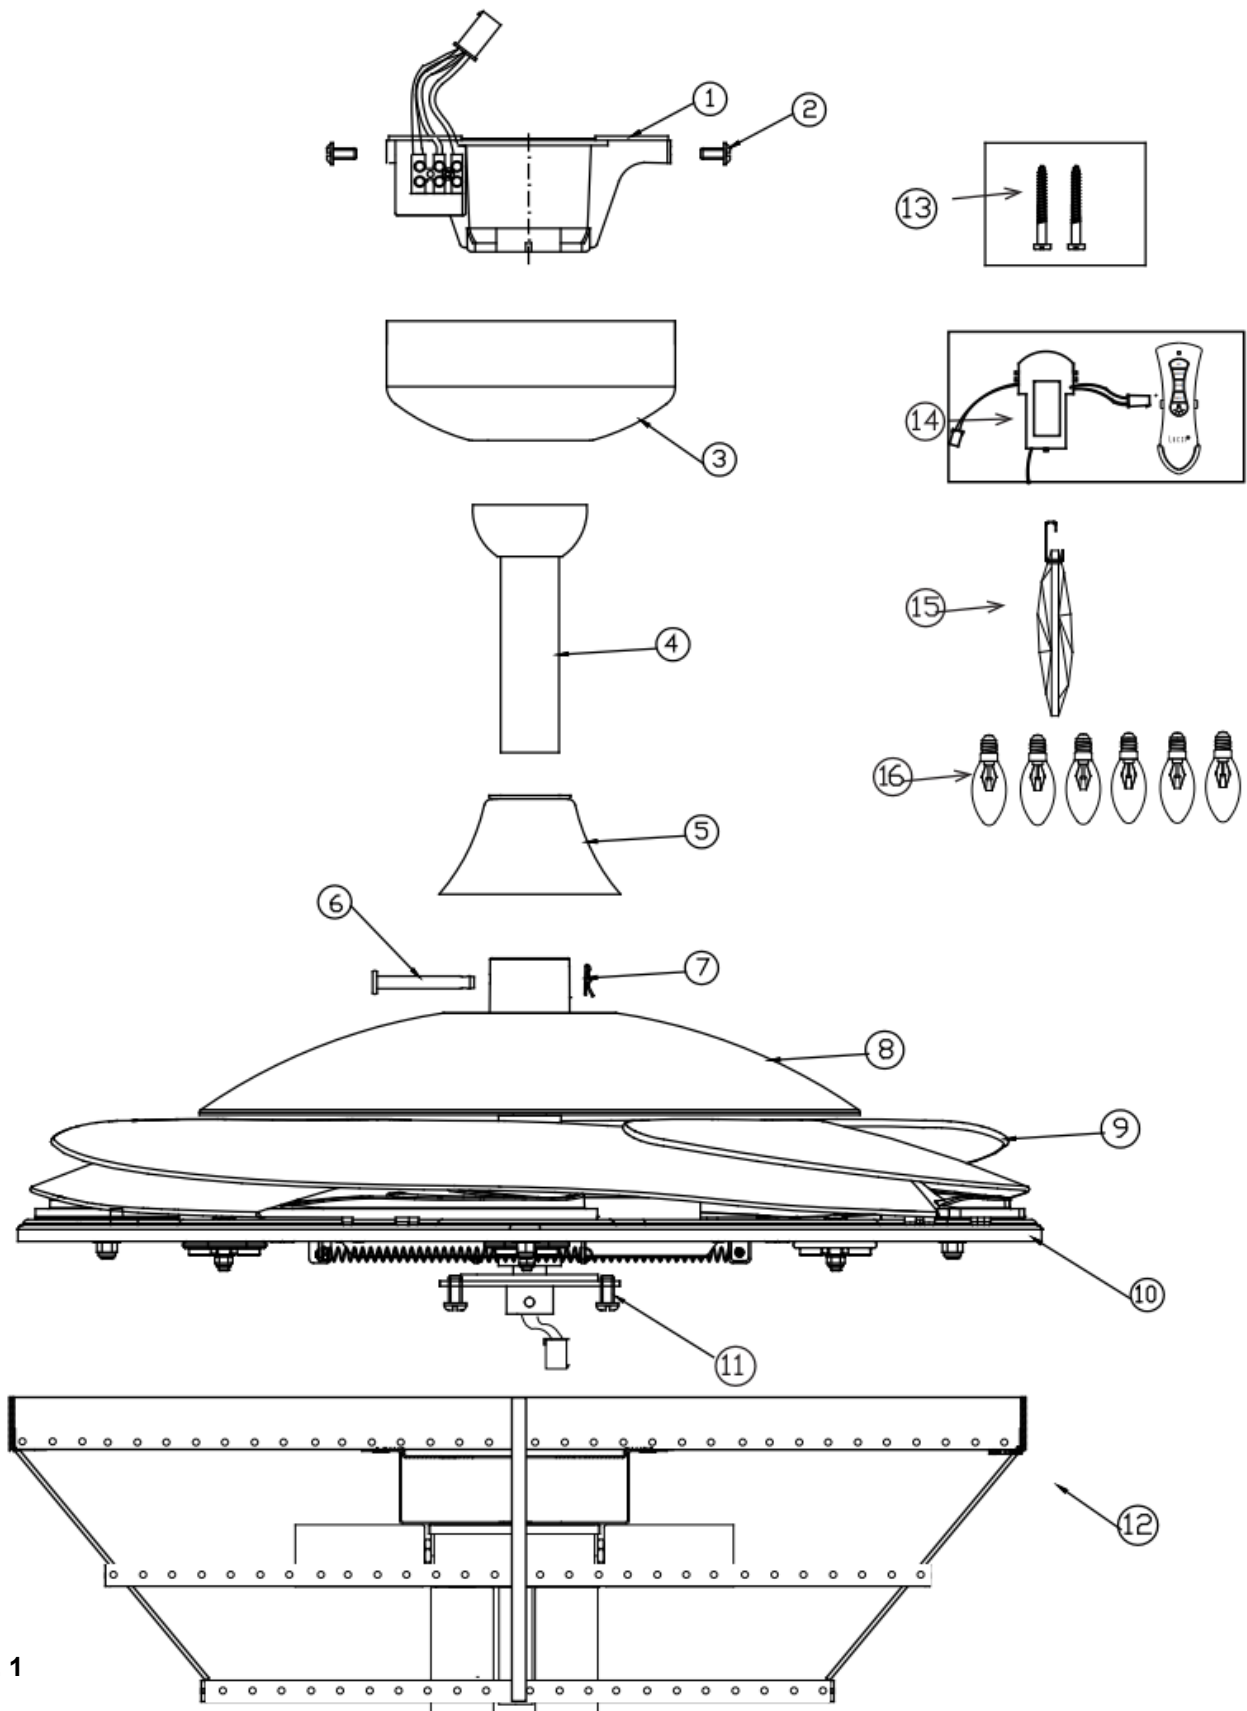

Fig. 1
- Examine all parts, you should have the following list and Fig.1: